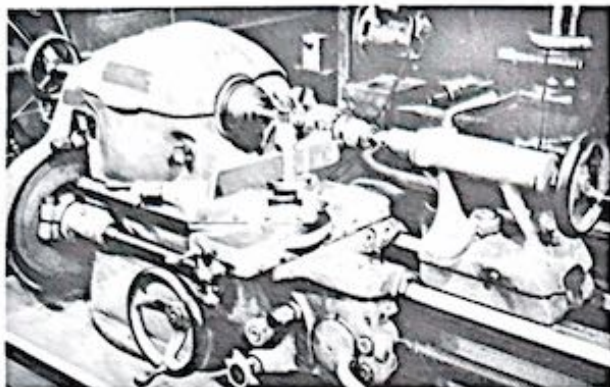

Figure 1-18. Turning down armature commutator
c. Inspect the armature commutator; if worn or rough, use a small lathe as shown in figure 1-18 to take a cut equal to the depth of the worn part. Carefully clean all copper or carbon dust from the slots between the segments. Use No. 00 sandpaper to clean the commutator or to remove any small burs after turning down on a lathe.